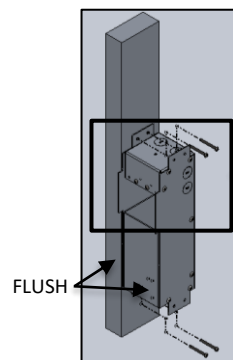

FIG. 13 - J-BOX ASSEMBLY
4. Attach RECESSED JUNCTION BOX to WALL STUD or CEILING JOIST at desired height and location before drywall is installed as shown below in FIG. 13. Use appropriate anchor screws to secure to stud.